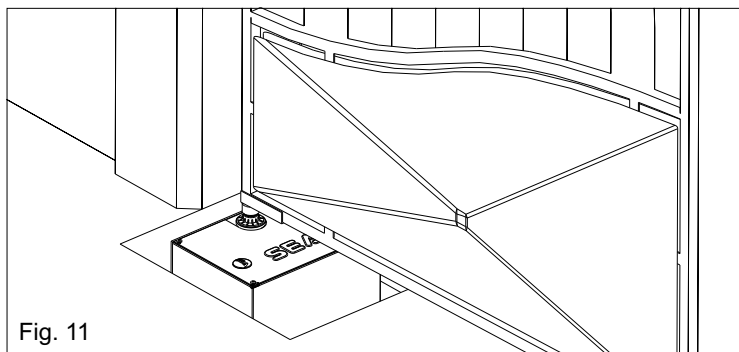

Fig. 11
**3.7.** Place the gate leaves on the U-shaped iron (Fig. 11) and connect them to the hinges in the upper part.